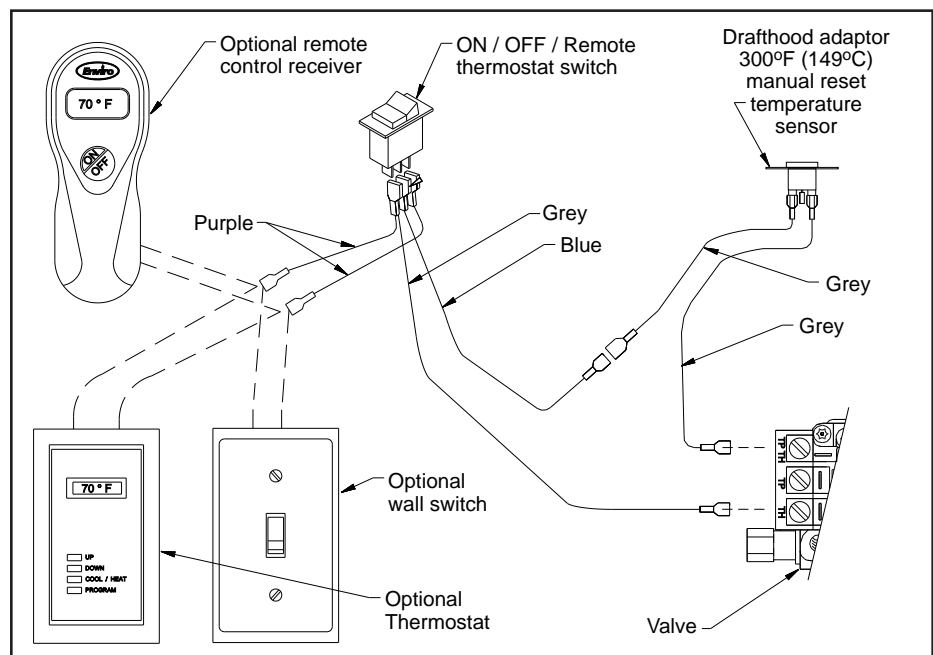

Figure 44: Wiring Diagram for Electrical Connection.
3. Being careful not to run any wiring tight across metal edges; connect them to the valve and "ON/OFF" switch (refer to Figure 44).
The fireplace connections are labelled in Figure 44. When installing the Drafhhood Adaptor onto a fireplace fitted with an optional wall switch or an optional thermostat, remove one wire from the switch to the gas valve and connect the Drafhhood Adaptor harness as shown in Figure 44.
2. Disconnect the spill switch wires from the valve and on/off/remote rocker switch wire (see Figure 44).